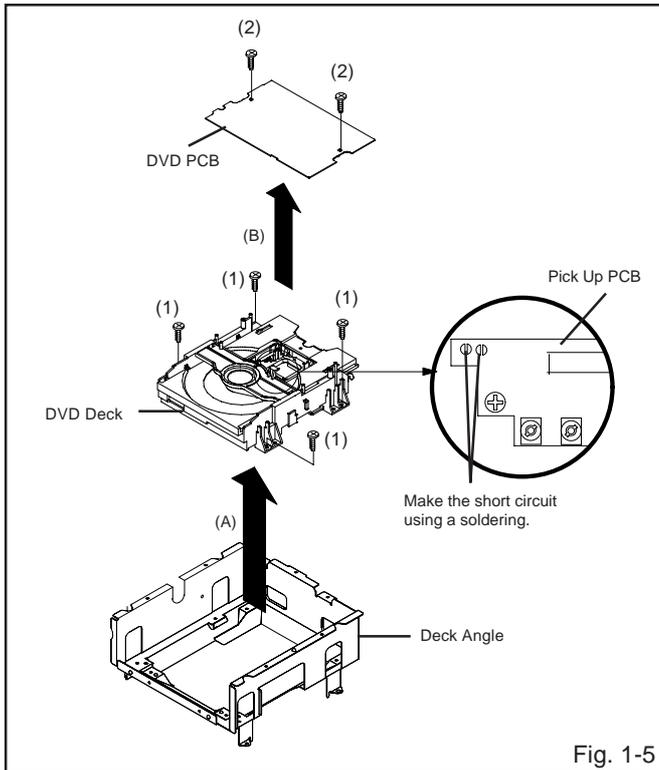

Fig. 1-5
1-5: DVD PCB/DVD DECK (Refer to Fig. 1-5)
1. Make the short circuit on the position as shown **Fig. 1-5** using a soldering. If you remove the DVD Deck with no soldering, the Laser may be damaged.
2. Remove the 4 screws (1).
3. Remove the DVD Deck in the direction of arrow (A).